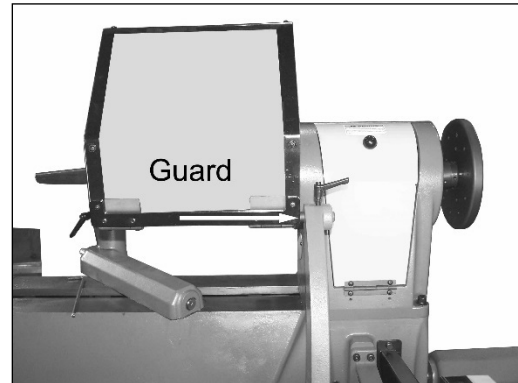

Figure 12
7. Your Oliver lathe is equipped with a safety shield. Install the mounting post of the shield, in the direction shown by the arrow in Figure 12, into the comparator/guard bracket and lock into place with the lock handle. Loosen the lock handle to adjust the guard position as necessary and then re-tighten.